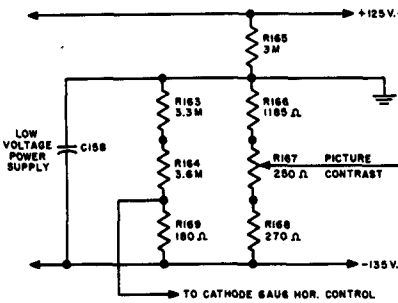

Fig. 16 — Sylvania
**Improving action of horizontal sync circuit (see Fig. 16).**